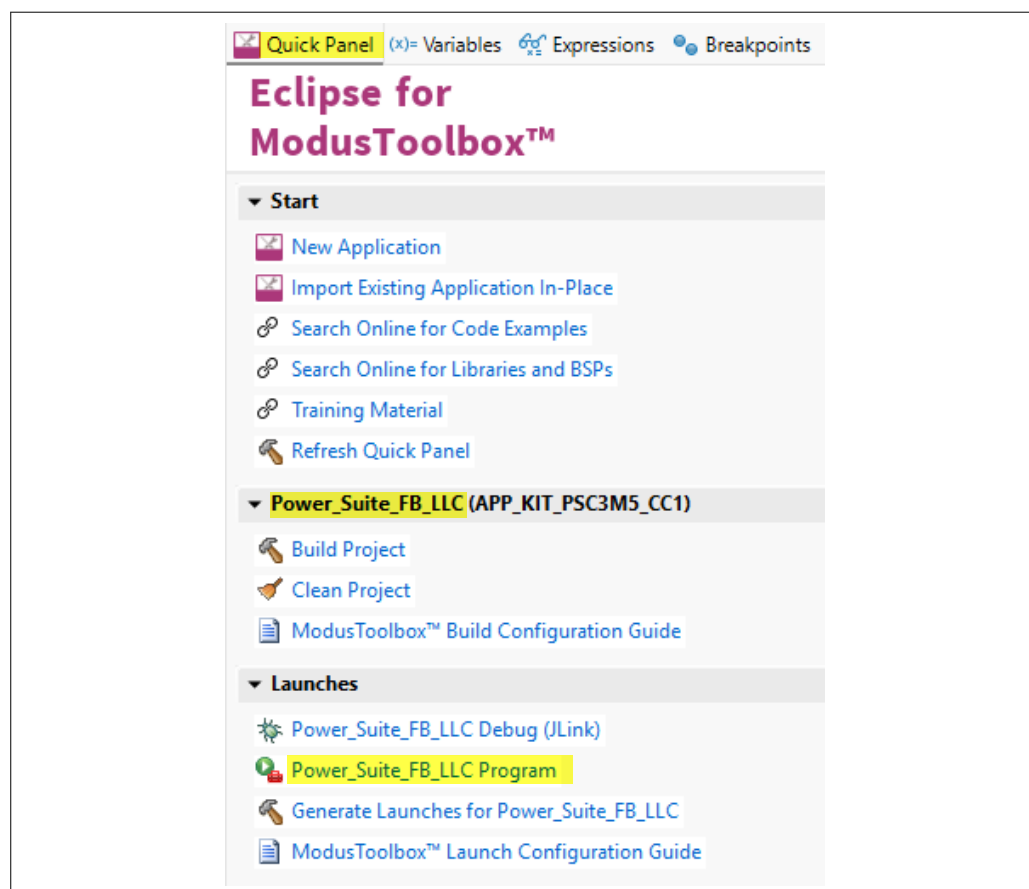

Figure 10 Programming in ModusToolbox™ software (2)
- b. In the **Quick Panel**, under the **Launches** section, click the **<App_Name> Program (J-Link)** configuration, as shown in Figure 10